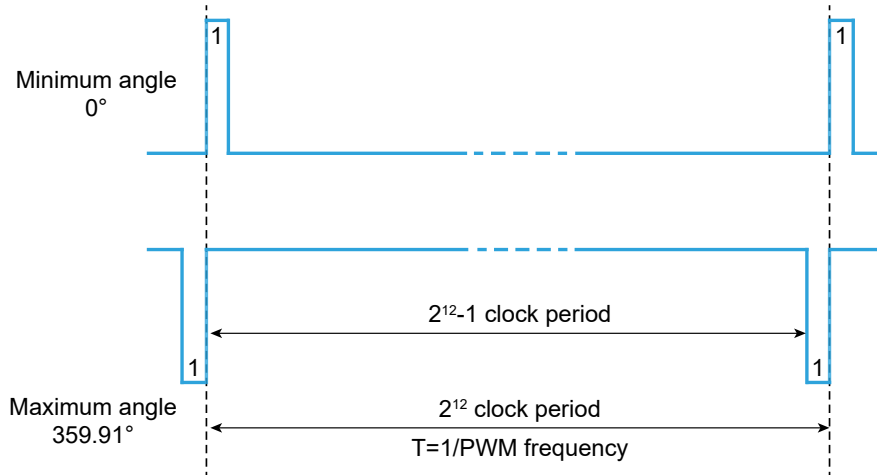

Figure 7. Waveform of PWM mode output signal
TMR3102P supports pulse width modulation (PWM) output. The duty cycle of PWM is a logic signal which proportional to the magnetic field angle. The duty cycle is limited by the minimum value (1/4096 of the period) and the maximum value (4095/4096 of the period), so the duty cycle varies from 1/4096 to 4095/4096 with the resolution of 12-bits. Figure 7 shows one period of the PWM signal, and the period (T) is  $1/F_{PWM}$ .